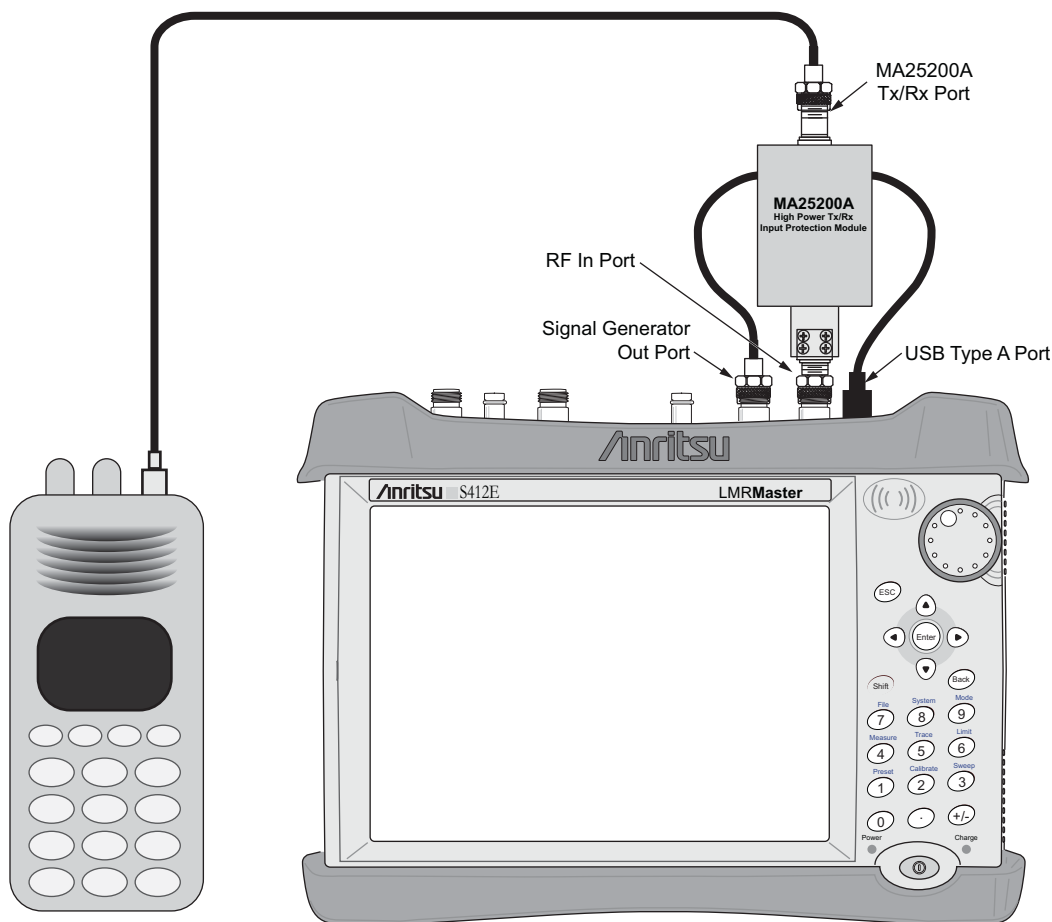

Figure 12-2. Handheld Transceiver connected to LMR Master with a MA25200A High Power Tx/Rx Input Protection Module
1. Connect the equipment as shown in Figure 12-2: